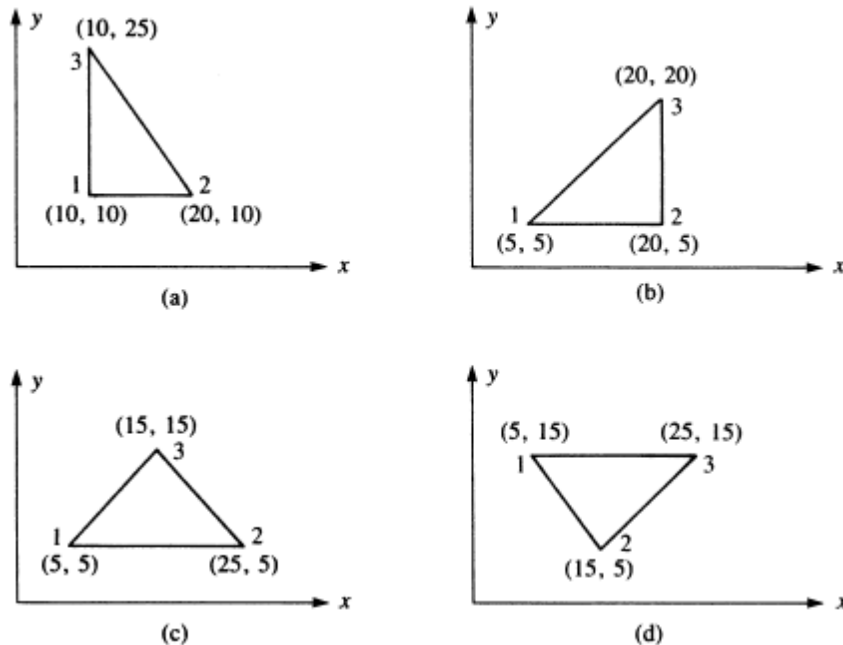

Figure P8.8
8. For the plane strain elements shown in **Figure P8.8**, the nodal displacements are given as $u_1 = 0.005$ mm, $v_1 = 0.002$ mm, $u_2 = 0.0$ mm, $v_2 = 0.0$ mm, $u_3 = 0.005$ mm, $v_3 = 0.0$ mm. Determine the element stresses σ_x , σ_y , τ_{xy} , σ_1 , and σ_2 and the principal angle θ_p . Let $E = 70$ GPa and $\nu = 0.3$, and use unit thickness for plane strain. All coordinates are in millimeters.